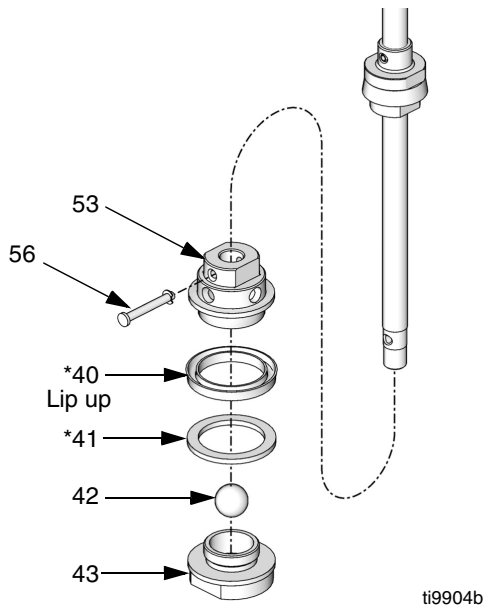

FIG. 20
- Remove pin (56). Remove piston valve assembly. Unscrew piston valve (43) from piston housing (53). Remove wear ring (41*), u-cup (40*) and ball (42). Inspect all parts for damage. See FIG. 20.